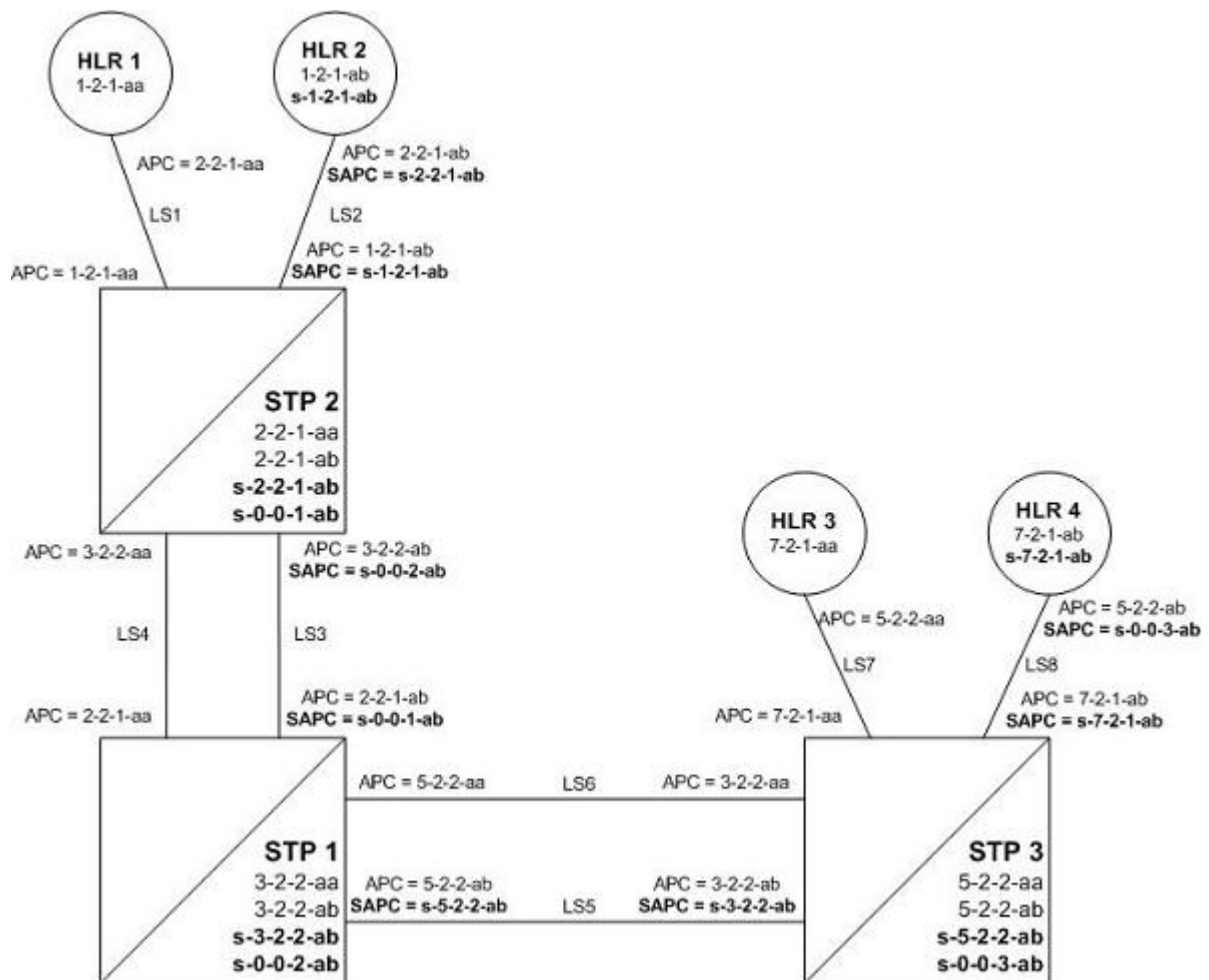

Figure 8: Stage One - ITU National and International Spare Point Code Support Feature Provisioned on All Nodes
Figure 8: Stage One - ITU National and International Spare Point Code Support Feature Provisioned on All Nodes shows an example network. The items shown in bold are items that are added during this stage of the migration procedure.
The following steps are performed for each node shown in Figure 8: Stage One - ITU National and International Spare Point Code Support Feature Provisioned on All Nodes, one at a time, as part of this stage of the migration procedure.
1. Upgrade each EAGLE shown in Figure 8: Stage One - ITU National and International Spare Point Code Support Feature Provisioned on All Nodes to the software release that contains the ITU National and International Spare Point Code Support feature by performing the appropriate upgrade procedure.
2. Enable the ITU National and International Spare Point Code Support feature on each EAGLE shown in Figure 8: Stage One - ITU National and International Spare Point Code Support Feature Provisioned on All Nodes, by performing the *Activating the ITU National and International Spare Point Code Support Feature* procedure. Do not turn the feature on at this time.
After Stage One has been completed, as indicated in *Figure 8: Stage One - ITU National and International Spare Point Code Support Feature Provisioned on All Nodes*, linksets LS2, LS3, LS5, and LS8 are capable of supporting traffic to and from both ITU-National and ITU-National spare point codes. Routing decisions, however, are still made using the Duplicate Point Code rules, as the ITU National and International Spare Point Code Support feature has not been turned on.